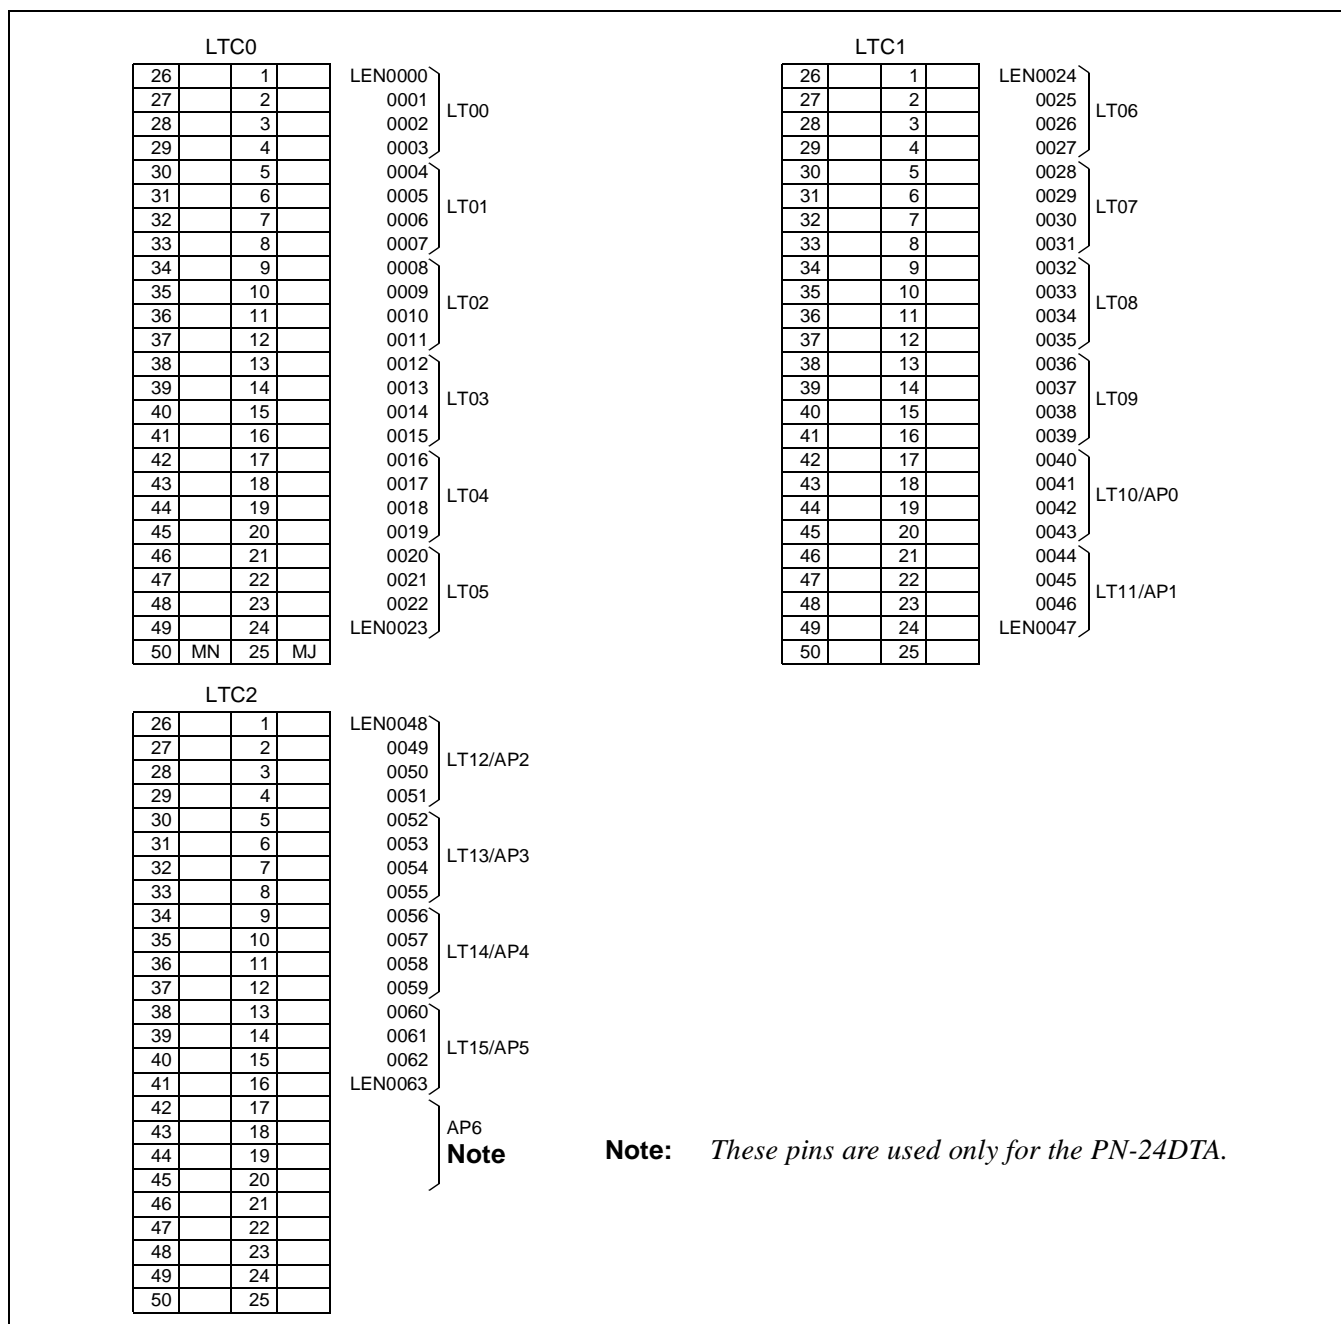

Figure 007-4 LTC Connector Pin Arrangement (1 of 8)
(3) Figure 007-4 shows the LTC Connector Pin Arrangement.